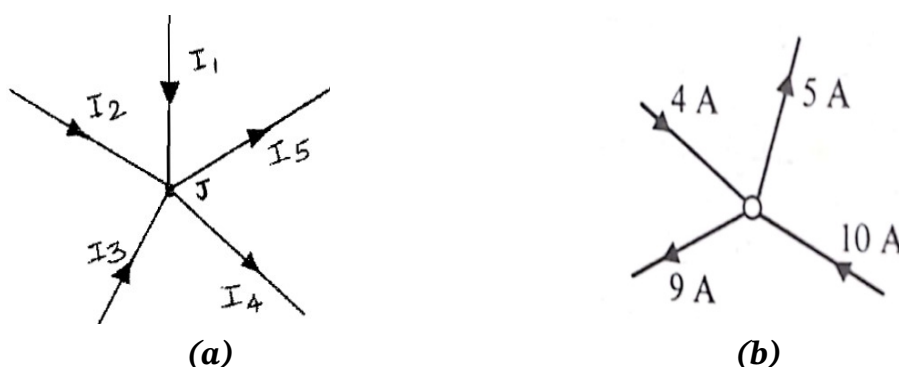

Figure 5.18.7: Kirchhoff's (First) Current law
2. Different signs are allocated to currents held to flow towards the junction and those away from it. This concept is more readily appreciated by the following examples in **Figure 5.18.7** (a) and (b)